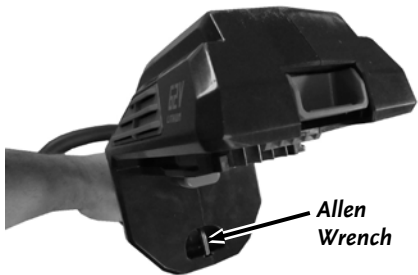

Figure 8
7. Remove the 5mm Allen Wrench from the storage area in the Battery Mount Shell (**Figure 8**).